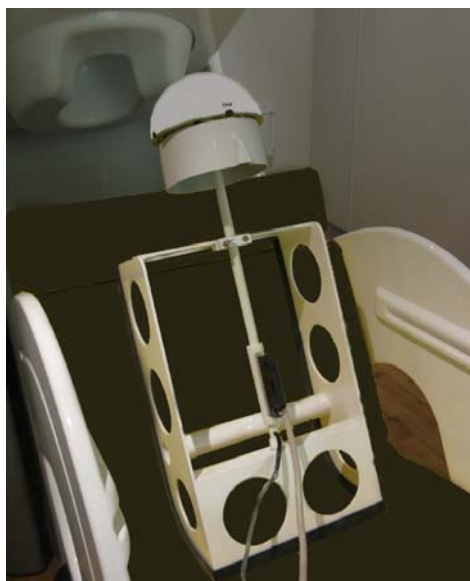

Figure 7.4 *The phantom holder on the patient chair. The white plastic part below the phantom hemisphere is an adapter to attach the goggles during digitization.*
1. Attach the phantom to the phantom holder, see Fig. 7.4, and set the holder and the phantom to the digitization chair. Attach the digitization goggles to the phantom.